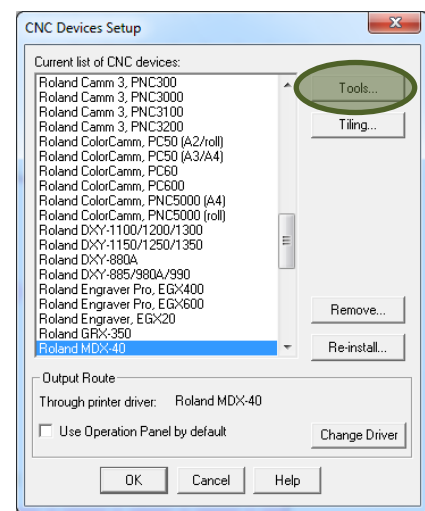

Figure 12
Select the Roland MDX40 from the list of machines if it is not already selected (Figure 12).
- Click the Tools button (Figure 12)